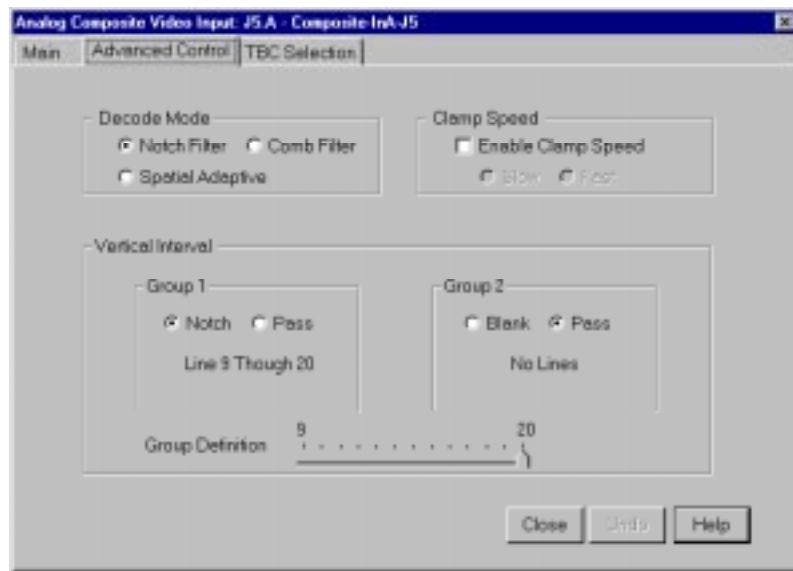
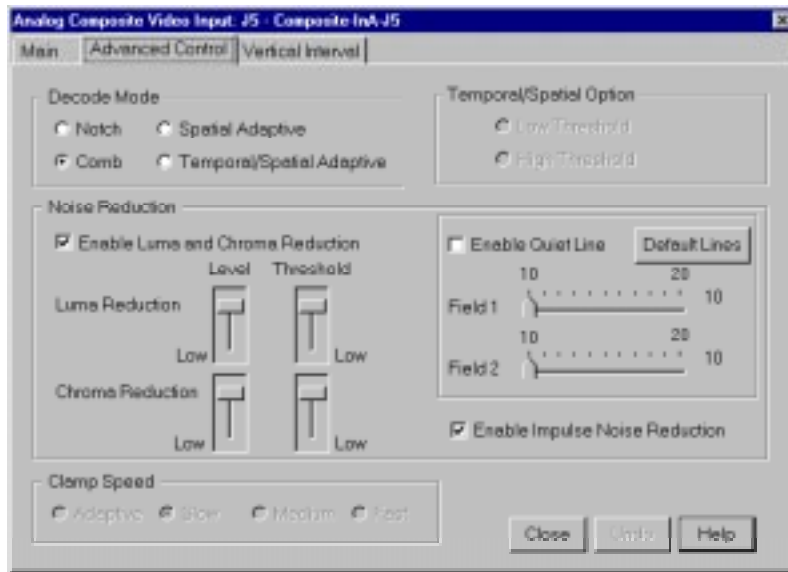

Figure 14. Analog Composite Video Input dialog box, Advanced Control tab (A)
Figure 15. Analog Composite Video Input dialog box, Advanced Control tab (B)
1. Click or double-click on the **Advanced Control** tab to view it (Figure 14 shows the dialog box for the most recent analog composite video cards while Figure 15 shows the dialog box for earlier cards).